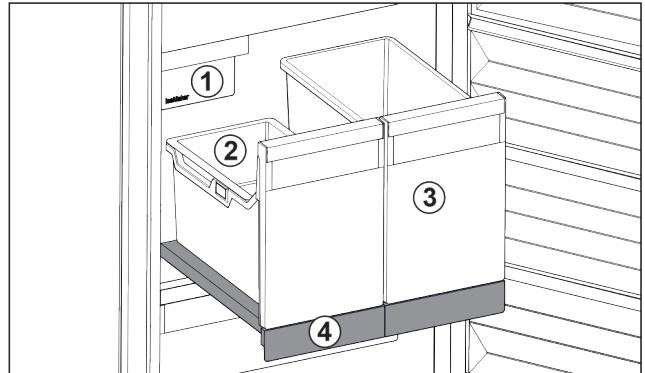

Fig. 116 Pull-out board with IceTower
- (1) IceMaker
- (2) Hang-on tray for ice cubes
- (3) Container for pizza or alcoholic beverages, for example
- (4) Pull-out board
There are two high (IceTower) containers on the pull-out board. Ice cubes from the IceMaker are collected and stored in the Fig. 116 (2) container. The container Fig. 116 (3) is suitable for storing tall foodstuffs or beverages such as pizzas or alcoholic drinks.